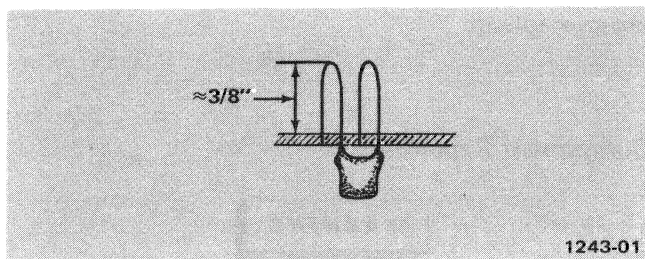

Fig. 4-1. Inductor ("T" coil) replacement.
**Inductor Replacement (L21, L22, L81, L82, L124, L125).** Inductors are replaced as a pair along with their associated capacitor (e.g., L21, L22, and C20). The inductors are formed by the leads of the capacitor, see Fig. 4-1. To replace a pair of inductors, proceed as follows: